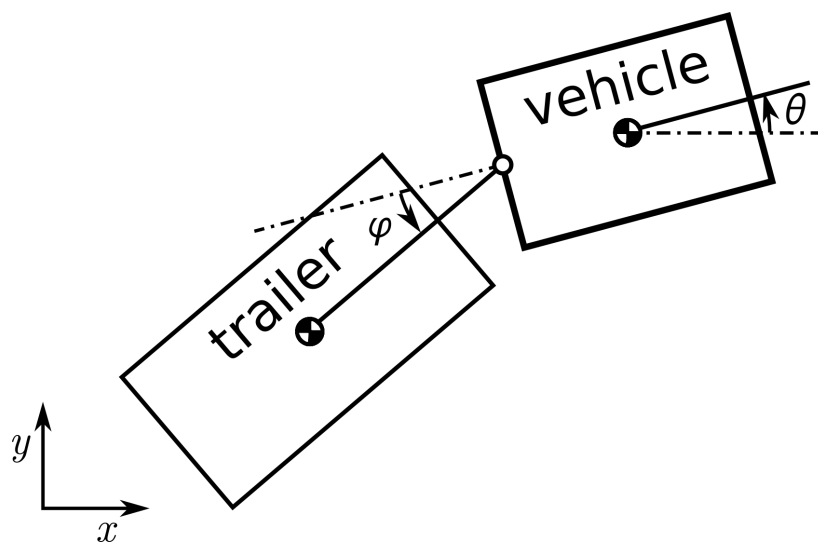

Figure 1: Vehicle with trailer
- (7pt) Add a trailer to the vehicle, see Fig. 1. Note that the magnitude of the angle ϕ of the trailer with respect to the vehicle may not be larger than $\phi_{\text{max}} = 45^\circ$. Show and explain your equations. Discuss your results for this new dynamical system.